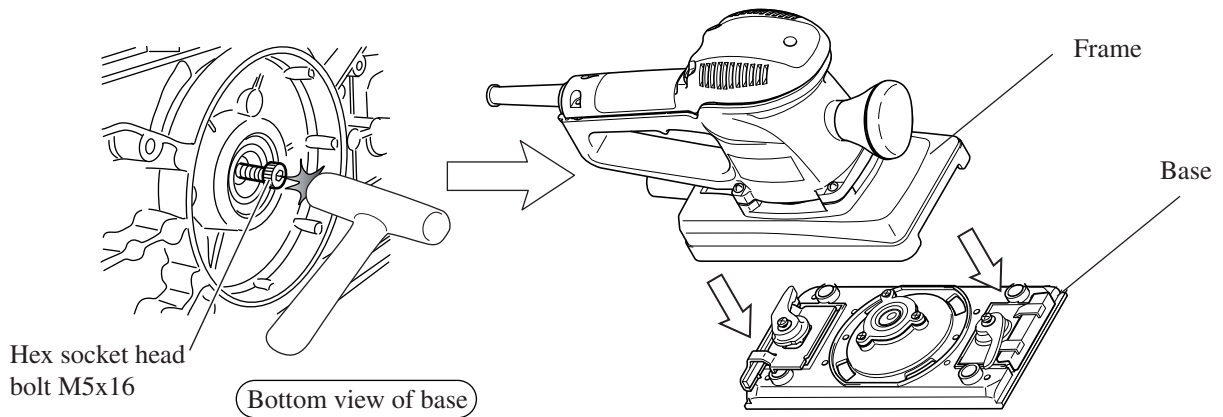

Fig. 4
3. After taking off balancer, tighten the hex socket head bolt M5x16 again loosely. And slightly hit this hex socket head bolt. Then base can be separated from frame. See Fig. 4.